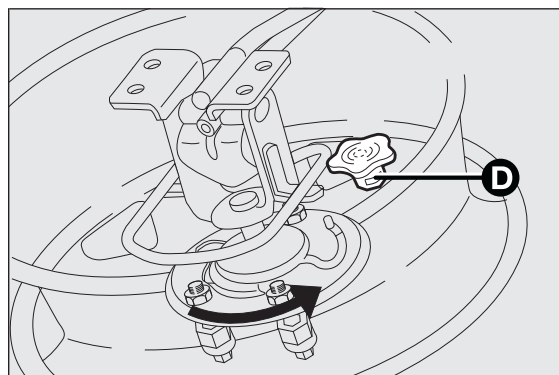

fig. 179
- ☐ re-attach the wheel to the support, rotating it to the end of the slot (as illustrated in fig. 179) and screw in knob D;